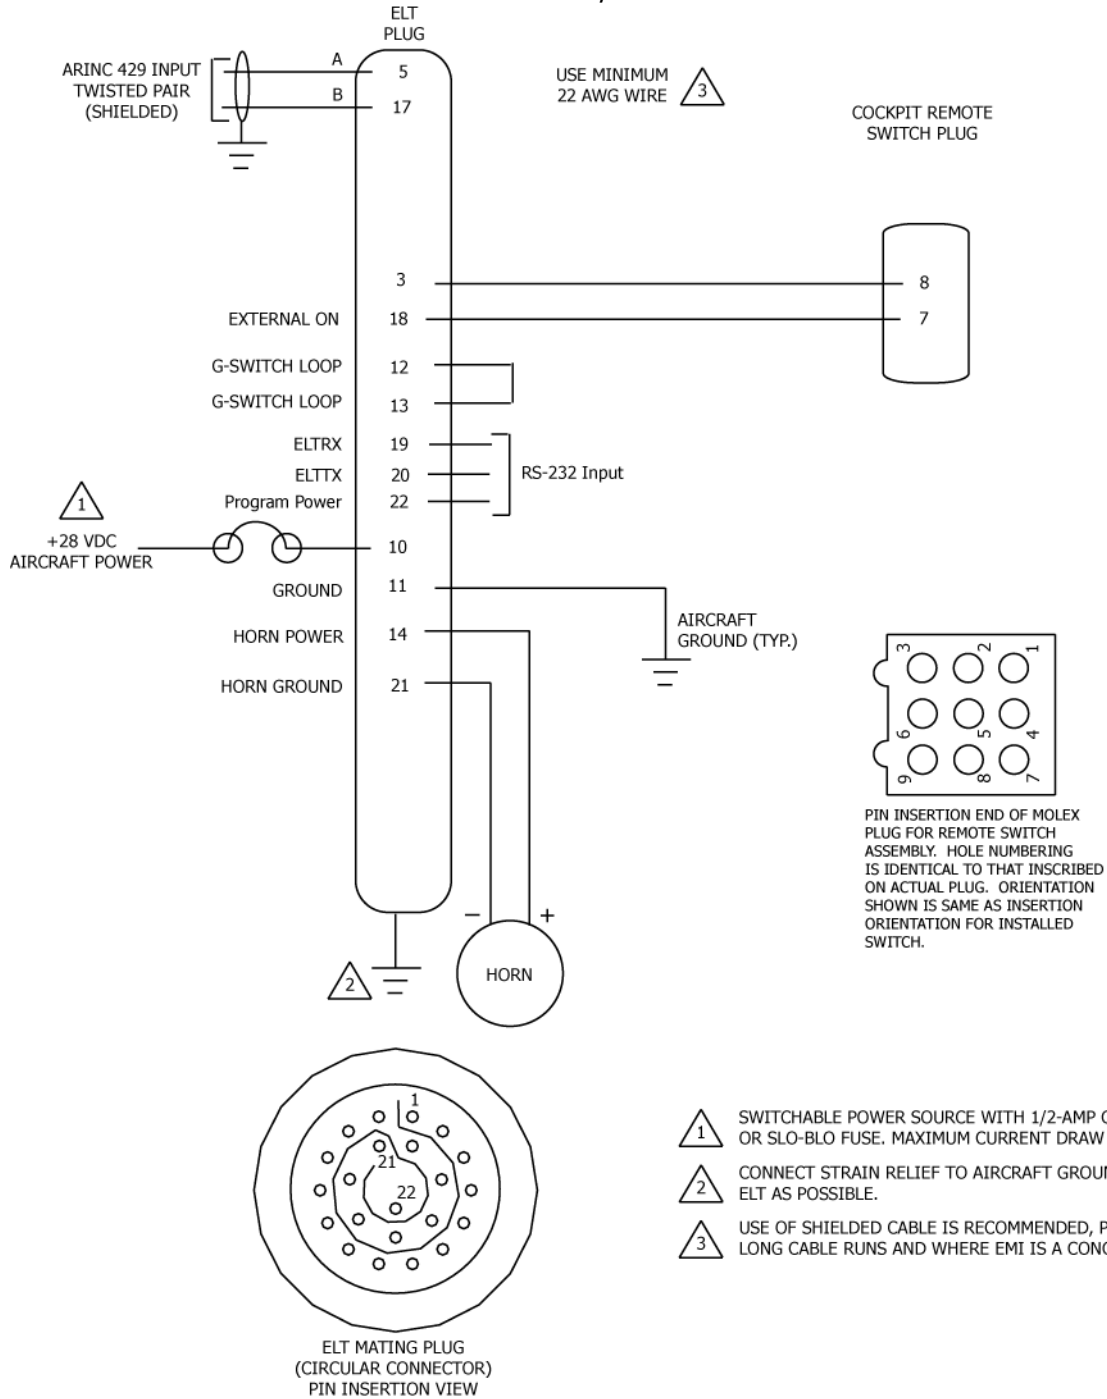

Figure 17 2-Wire Remote Switch Harness Wiring Diagram
NOTE: This wire will be crimped in the same pin as the wire running from Pin 11 of the ELT plug to the cockpit remote switch plug Pin 6, if the Pin 11 to Pin 6 connection is required. See Note 4 in Figure 17. Alternatively, the wires may be spliced in a manner acceptable to the aircraft manufacturer, or as described in AC 43.13-1, Paragraph 11-167.
- a) The Pin 11 ground wire. The wire running from Pin 11 to remote switch Pin 6 is terminated in the same pin, if this wire is required. See Figure 17. Make a note of the wire identification for later reference.